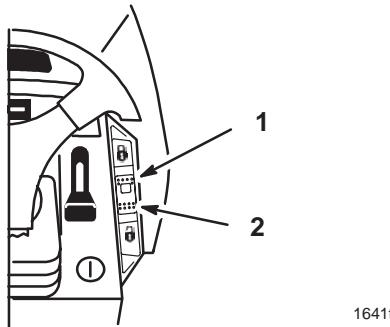

Figure 15
The cruise control is optional on some models. A three position Lock-Set (spring loaded), On and Unlock-Off dash switch (Fig. 15) controls the engagement. Cruise control maintains the traction control position without foot pressure. Cruise control is intended for operation in the forward direction only. Do not use cruise control in reverse.
1. Begin driving tractor: Refer to Driving Forward or Backward, page 18. While holding your foot steady on the traction control, push the cruise control switch (Fig. 15) to the "LOCK-SET" position.
1. While holding your foot steady on the traction control, move the cruise control switch (Fig. 15) to the "UNLOCK-OFF" position.